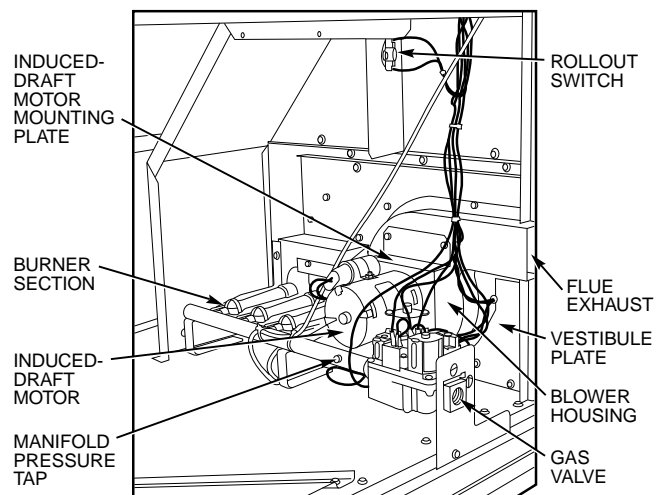

Fig. 44 — Burner Section Details
2. Remove the 7 screws that attach induced-draft motor housing to vestibule plate (Fig. 44).
(Fig. 44 - 46.)
7. Remove the 2 screws that attach the burner rack to the vestibule plate (Fig. 44).